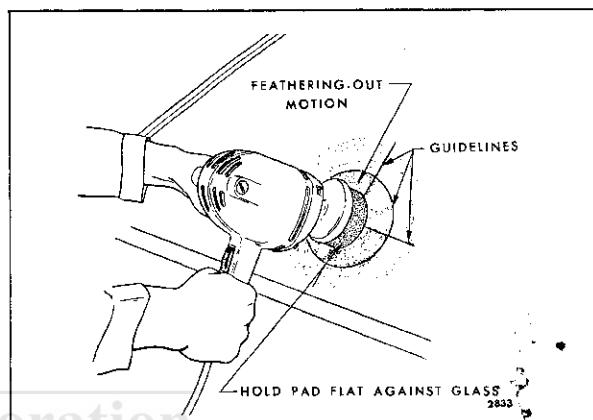

Fig. 1-10—Minor Glass Scratch Removal
3. Draw a circle around the scratches on the inside of the windshield with a marking crayon or equivalent. Draw other lines directly behind scratches to serve as guides in locating the during polishing (Fig. 1-10).
- Using moderate, but steady, pressure, hold the pad flat against the scratched area of the glass, and with a feathering-out motion, polish the affected area as shown in Figure 1-10.
- Cover a sufficient area around the scratch with a feathering-out motion as shown in Figure 1-10, to eliminate any possibility of a "bulls-eye".